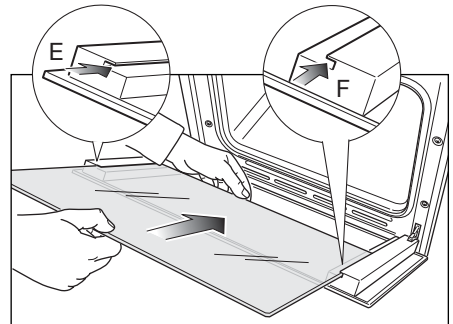
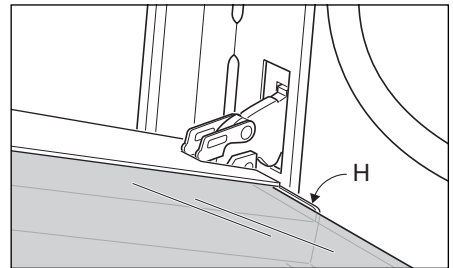

Fig.50b
Fig.50c
- Insert the pane in the left "E" and right "F" slide guides (Fig. 50b), and gently slide it to the retainers "H" (Fig. 50c).